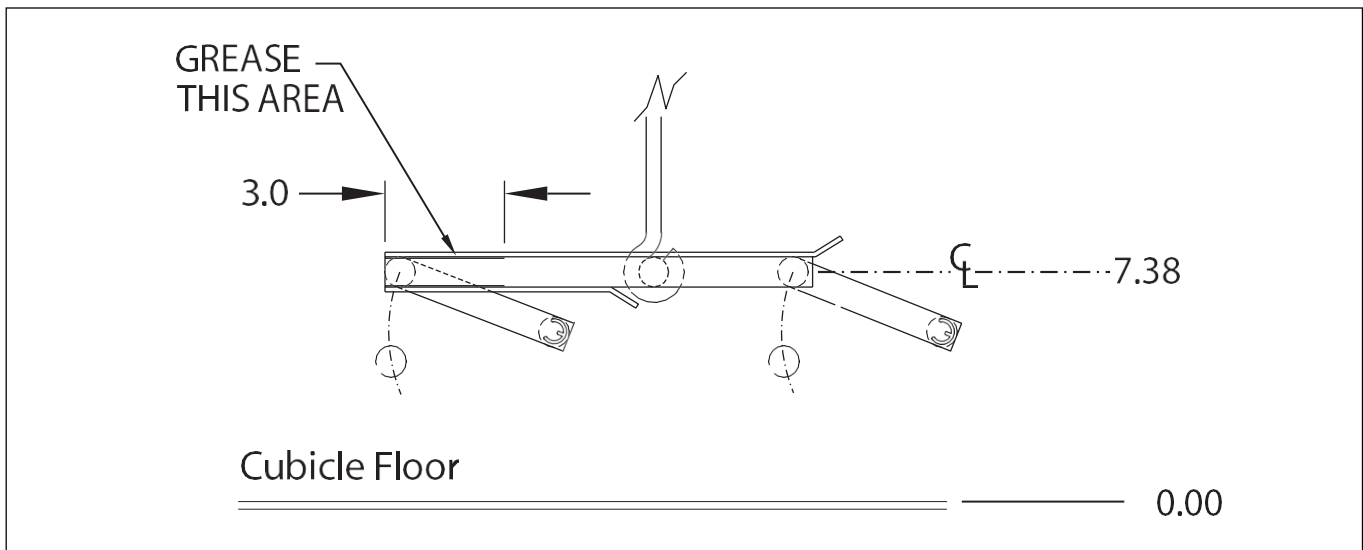

Figure 7. Cubicle Pantograph Setup
5. Verify and adjust cubicle MOC components as needed to match pantograph reference dimensions shown in Figure 7.
Reference **Figure 7** for the setup of the cubicle pantograph. This figure matches the original equipment manufacturer's setup.